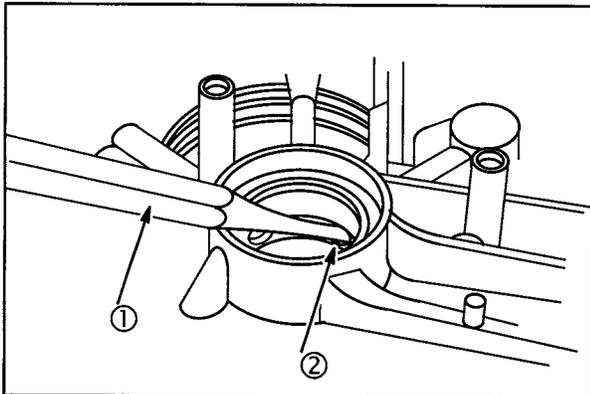

Fig. 10
1. Drive roll pin (2) into oil gallery using a $3/16$ " punch (1), **Fig. 10**.